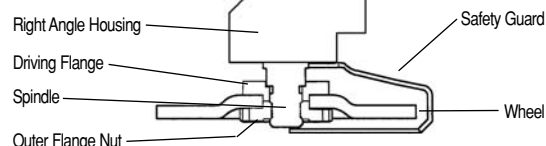

Fig. 1
6. **With 1/4" thick wheels & greater**, install outer flange nut with raised boss facing toward abrasive wheel, engage spindle lock and secure flange firmly against wheel. (See fig. 1)